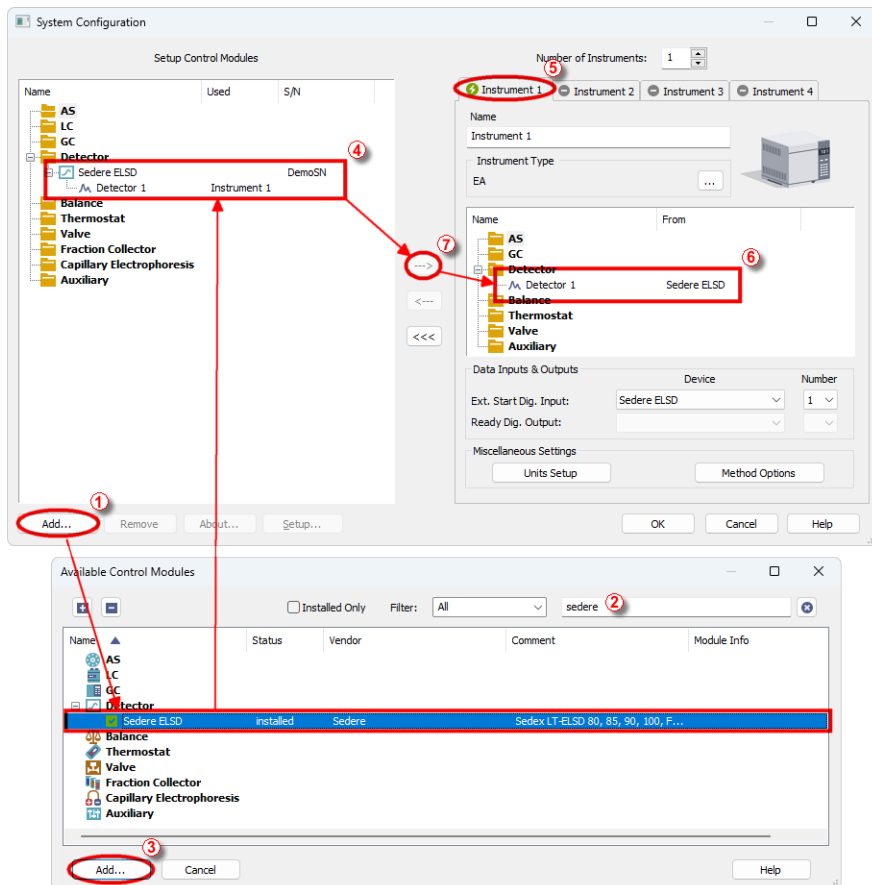

Fig. 3: System Configuration
- Press the **Add** button ① (see **Fig. 3** on pg. 4.) to invoke the **Available Control Modules** dialog.
- You can specify the searching filter ② to simplify the finding of the driver.
- Select the **Sedere ELSD** and press the **Add** ③ button.